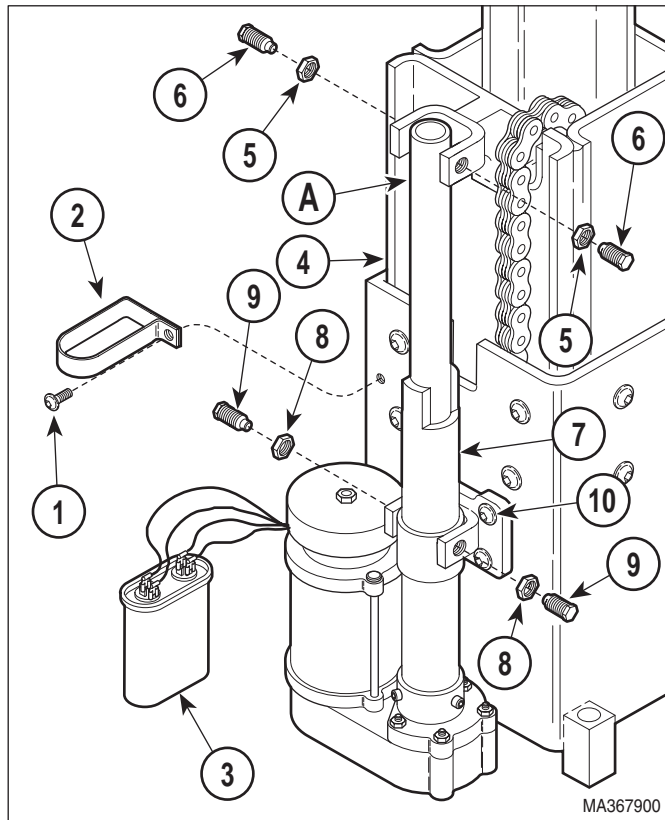

Figure 4-22. Base Actuator Removal / Installation
(12) Remove two screws (7) and base reducer assembly (8) from column weldment assembly (9).
(13) Remove screw (1, Figure 4-22), capacitor strap (2), and base capacitor (3) from column assembly (4). Allow base capacitor to lay off on side.
- (2) Remove jam nuts (5 and 8, Figure 4-22) from pivot screws (6 and 9).
- (3) Clean adhesive residue from threads of pivot screws (6 and 9).
- (4) Screw jam nuts (5 and 8) on pivot screws (6 and 9) fully.
- (5) Coat the threads of two pivot screws (9), which are located directly in front of jam nuts (8), with permanent threadlocking adhesive (Loctite 262).
- (11) Run TABLE UP and / or TABLE DOWN function until shaft (A) of base actuator (7, Figure 4-22) is aligned with bracket of column assembly (4).
- (12) Coat the threads of two pivot screws (6), which are located directly in front of jam nuts (5), with permanent threadlocking adhesive (Loctite 262).